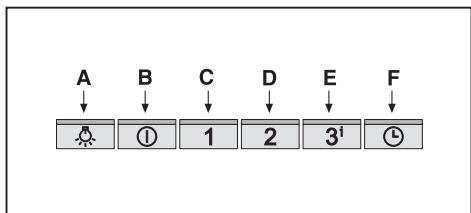

Fig.8
• Commands luminous (Fig.8) the key symbols are explained below: